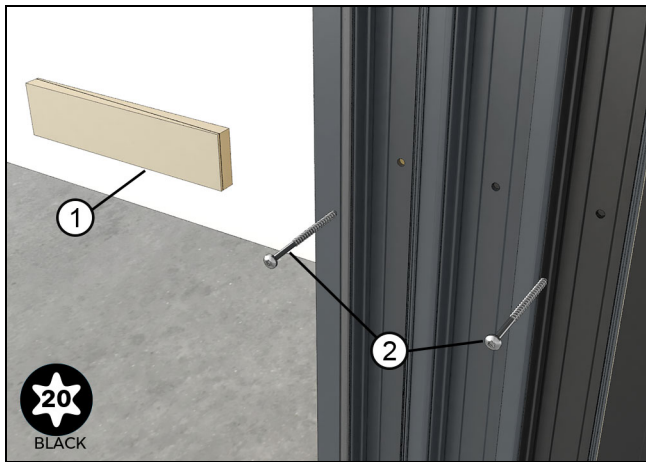

Figure 73
9. Complete fastening and shimming through additional fastener holes in the jamb. See Figure 73.